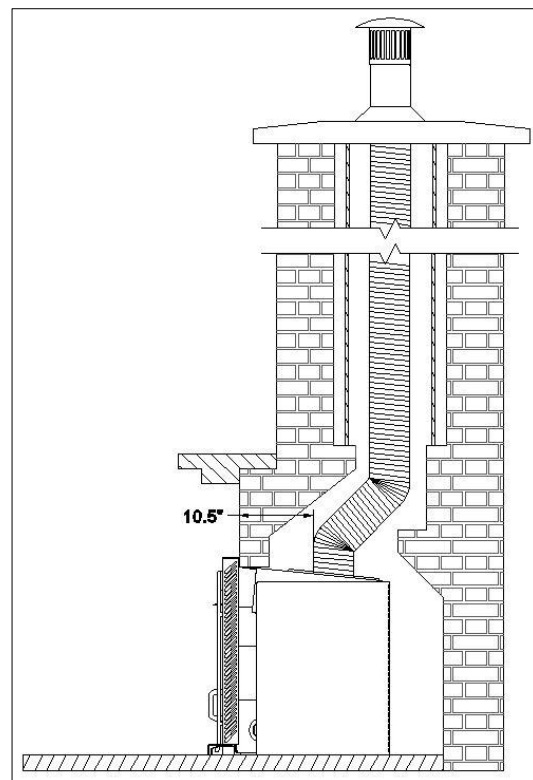

Figure 20: Fusion Installation
- viii. Adjust the position of the circulating chamber in order to have a distance of 10.5 inches from the face of the liner to the face of the existing fireplace (see Figure 20).